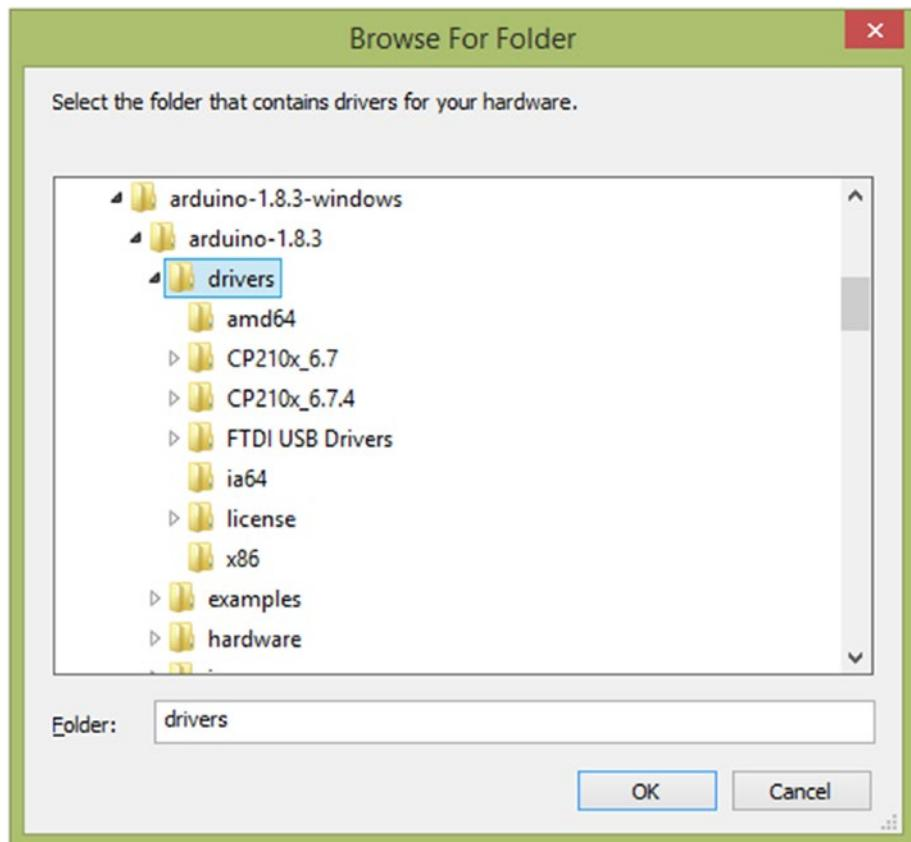

Figure 3-10. The drivers for Arduino Uno can be found in the drivers folder
7. Browse and select the folder named drivers from the Arduino software download. Then click the OK button (Figure 3-10).